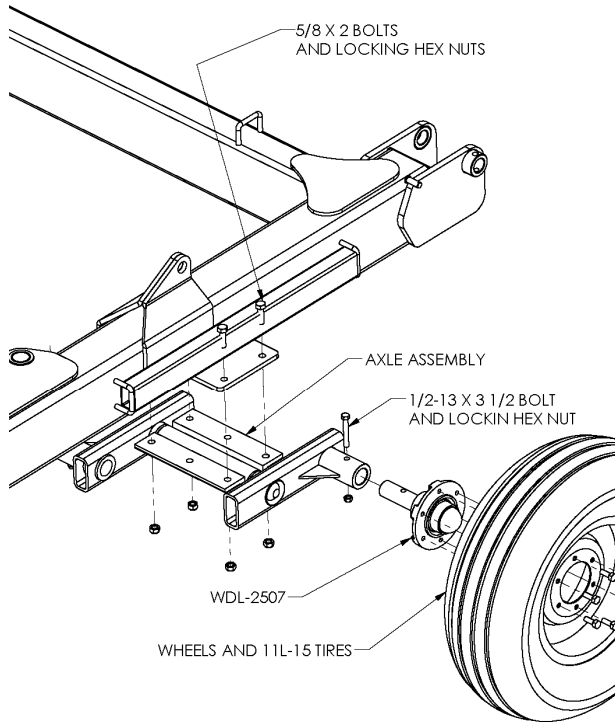
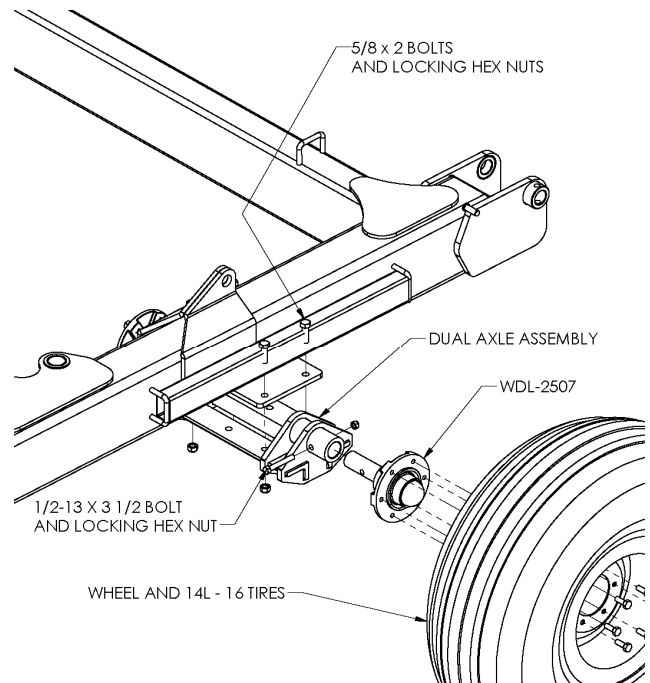
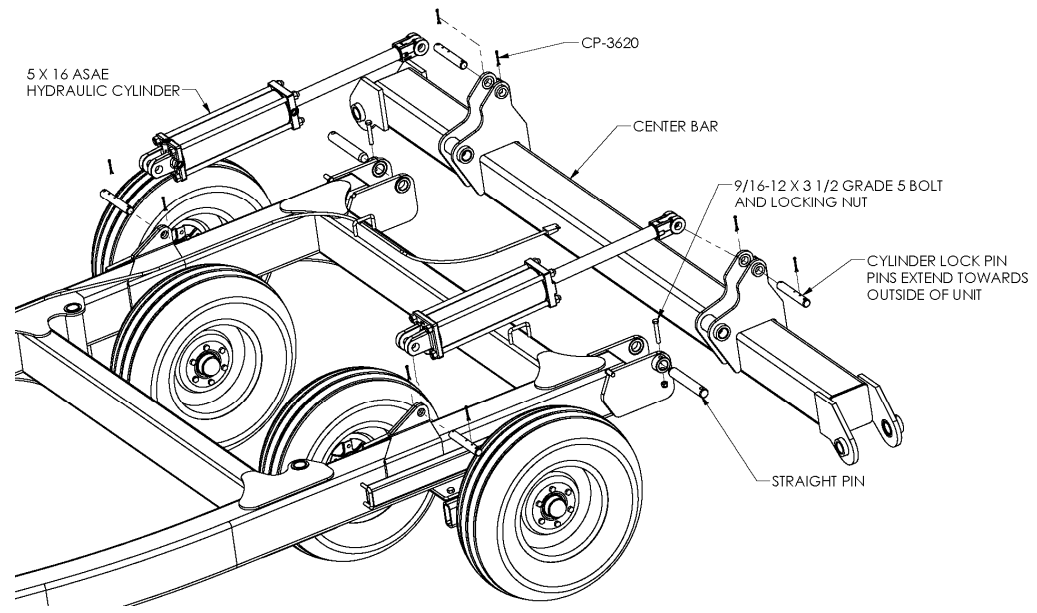

Figure 1A
Figure 1B
Figure 3
1. Refer to Figures 1A and 1B. Figure 1A shows walking axle with 11L - 15 tires and Figure 1B shows dual axle with 14L - 16 tires. Bolt the main frame axle assemblies to the frame. Use 5/8" x 2" bolts and locking hex nuts. Note: when installing the 14L tires, it is recommended to pin the lift cylinder to the main frame first (see figure 3).
1. Attach the center bar to the main frame. Refer to Figure 3. Use the 1 1/2" x 9 5/8" straight pins, 9/16" x 3 1/2" grade 5 bolts, and locking hex nuts.